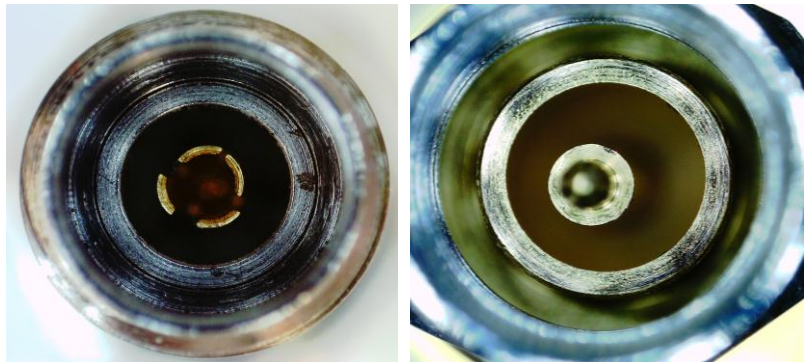

Figure 11 - Examples of damaged connectors: Bent fingers on female slotted connector (left); non-concentric male pin (right)
- Figure 11 shows good examples of damaged centre conductors.